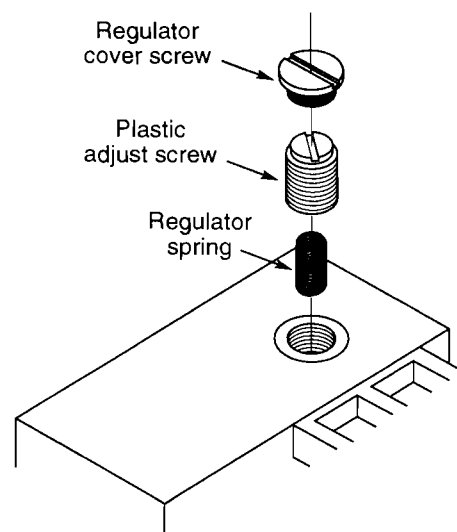

Figure 4. Pressure regulator adjustment
4. Remove regulator cover screw and turn regulator adjust screw **clockwise** (↻) to **increase pressure**, or **counterclockwise** (↺) to **decrease pressure** (see fig. 4). Always adjust regulator to provide the correct pressure according to the original equipment manufacturer's specifications listed on the appliance rating plate.